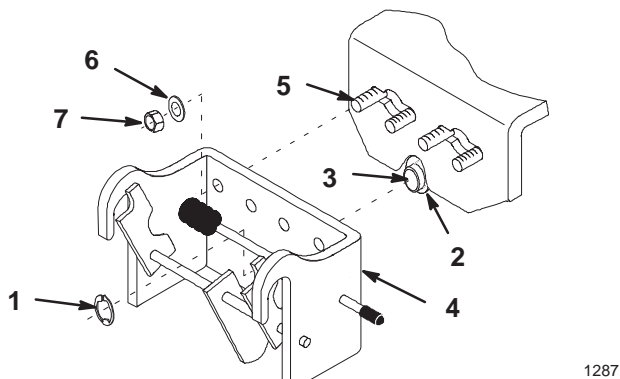

Figure 6
1. Remove E-ring and all except one thick washer from tractor front axle pivot pin. Discard unused washers. (Fig. 6). Remove muffler shield.
2. Install (4) 3/8 x 1 carriage bolts into keyhole slots in axle bracket. Install muffler shield and place front hitch onto the tractor securing with (4) 3/8" washers, (4) 3/8" lock nuts and previously removed E-ring (Fig. 6).